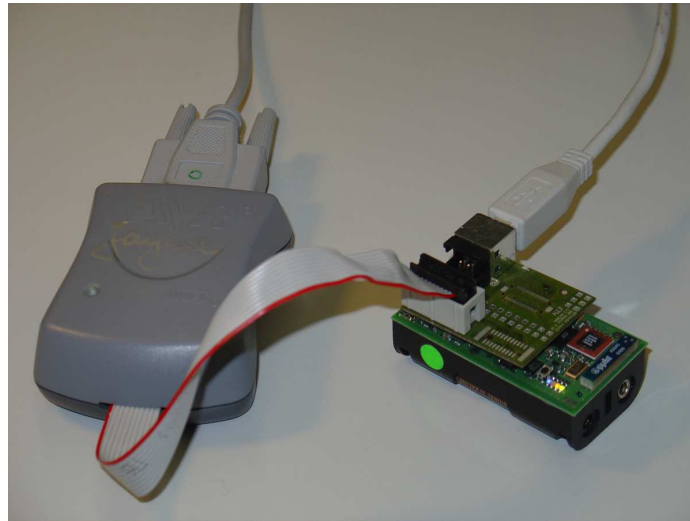

Figure 2.6: Debugging a BTnode using a USB connection to a serial port and ISP programming with the Atmel ATAVRISP.
**Exercise 2.12.** Now connect a BTnode to your PC using a `usbprog` board and a USB cable (see figure 2.6). Further connect an Atmel ATAVRISP programmer to the `usbprog` board and to a serial port on your PC. The default settings are `/dev/ttyS0` for programming through an ATAVRISP and `/dev/ttyUSB0` for debugging through the serial port of the BTnode. (If in doubt about the right serial port for debugging use the `List_USB2UART` script on windows or check `/var/log/messages` on linux.).
Be sure to orient the `usbprog` board correctly as shown in figure 2.6. The board goes above the power switch of the BTnode with the two mounting holes matching those on the BTnode. If in doubt about the right serial port for debugging use the `List_USB2UART` script on windows or check `/var/log/messages` on linux.